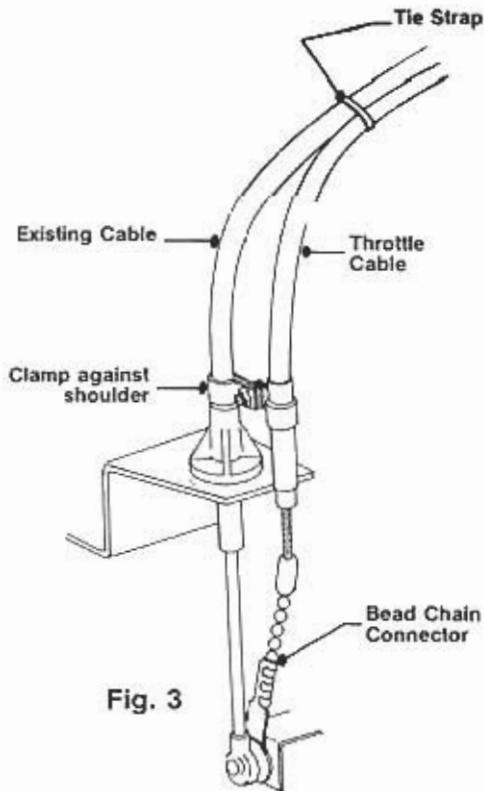

Fig. 3
4. Route regulator cable under air cleaner. Follow existing throttle cable to throttle as shown in Fig. 3.
5. Attach bead chain connector to existing throttle as shown in Fig. 3.